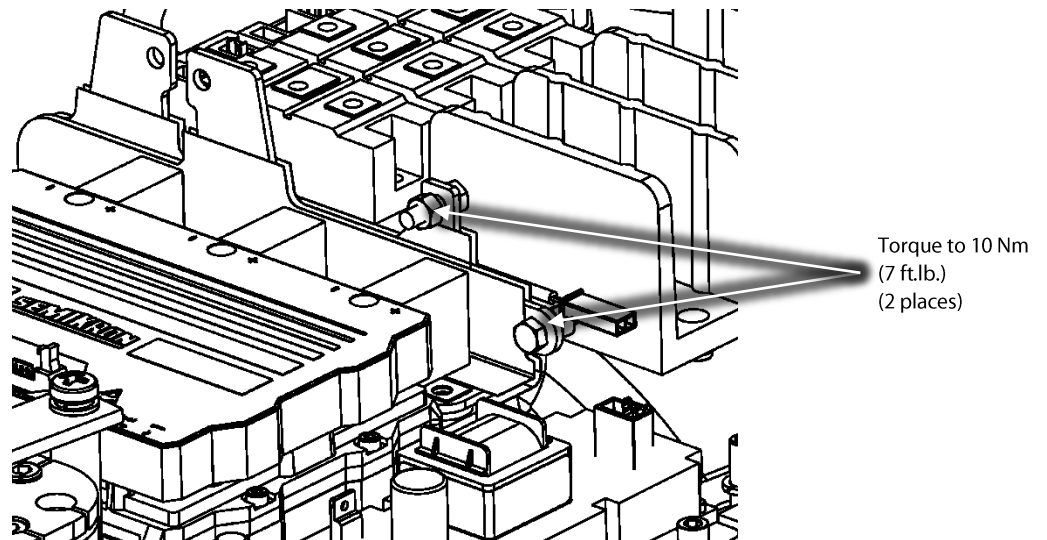

Figure 10 – Soft Start Harness Removal
19. Disconnect the DC+ and DC- of the Soft Start harness from the DC bus assembly noting the orientation. Refer to Figure 10 (Soft Start Harness Removal).
17. Reconnect the DC+ and DC- of the Soft Start harness from the DC bus assembly noting the orientation and torque to specification. Refer to Figure 10 (Soft Start Harness Removal).